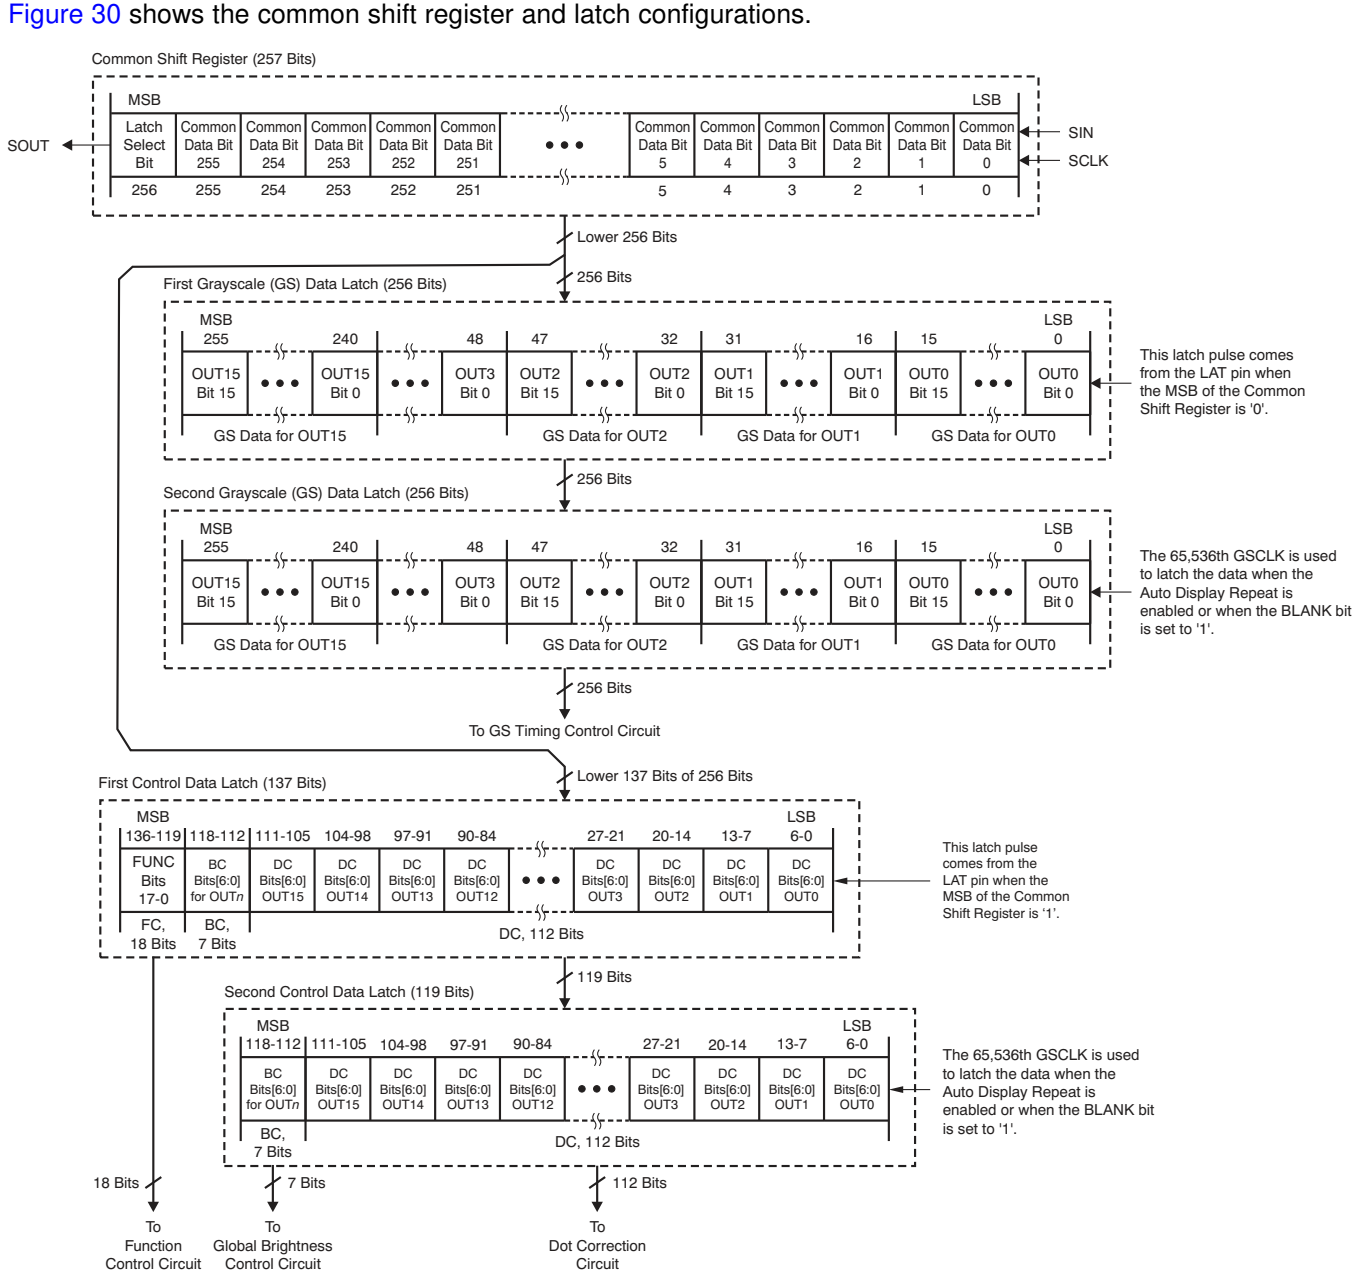

Figure 30. Common Shift Register and Control Data Latches Configuration
The TLC5948A has one common shift register and two pairs of data latches: the first and second grayscale (GS) data latches and the first and second control data latches. The common shift register is 257 bits long and the GS data latches are 256 bits long in total. The first control data latch is 137 bits long and the second latch is 119 bits long. When the common shift register MSB is '0', the least significant 256 bits from the common shift register are latched into the first GS data latch. When the MSB is '1', the data are latched into the common first control data latch. **Figure 30** shows the common shift register and latch configurations.